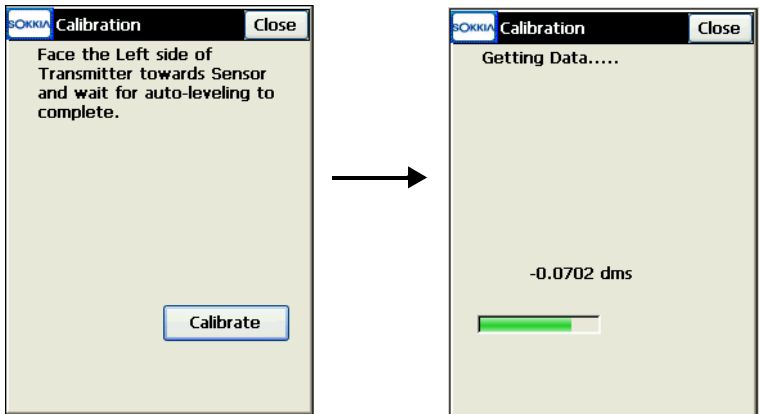

Figure A-18. Turn Transmitter to Left and Collect Data
9. Turn the transmitter 90° so the left side faces the transmitter. Tap **Calibrate** (Figure A-18).